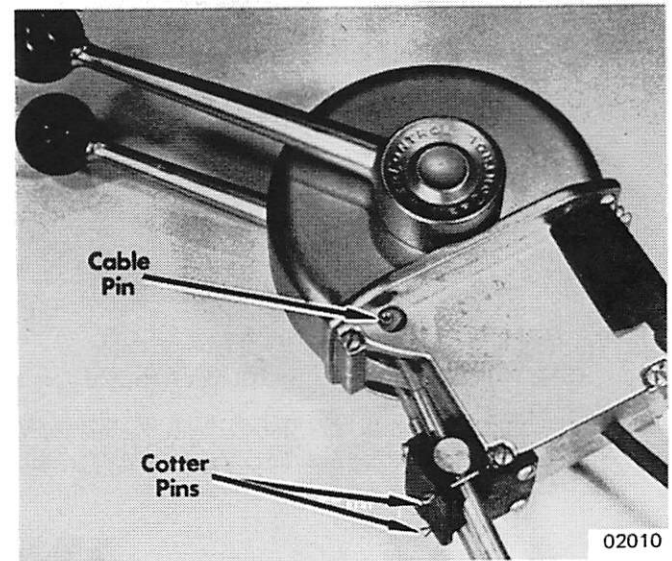

Figure 3. Control Cables Installed
3. Control cables are held in position with pins and hair pin clips. (Figure 3)